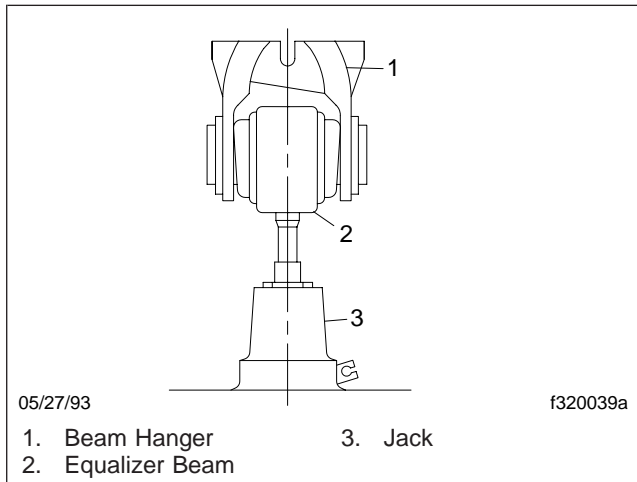

Fig. 5, Raising the Hendrickson Suspension Beam End
3. Check that the ends of the equalizer beam are not lower in the beam hanger. If the equalizer beam ends appear lower, use a jack to raise each beam end, and check for movement of the inner metal of the rubber end bushing. See **Fig. 5**. Movement cannot be corrected by tightening the fastener, because parts could be damaged. If there is movement, replace the rubber end bushings and all connecting parts. See **Group 32** of the *L-Line and A-Line Workshop Manual* for instructions.